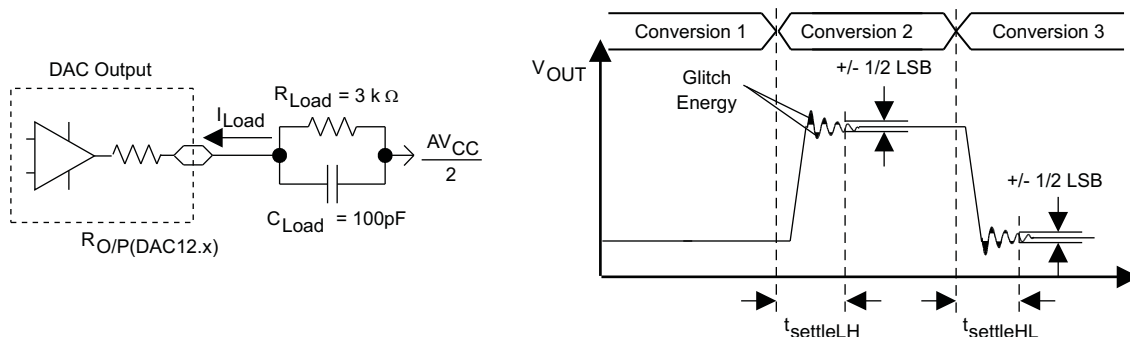
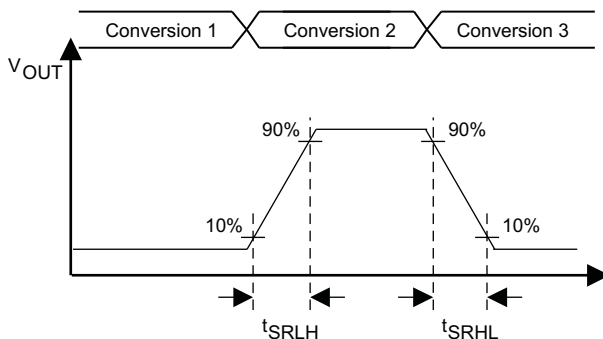

Figure 5-24. Settling Time and Glitch Energy Testing
Figure 5-25. Slew Rate Testing
$V_{ref} = V_{CC}$ , DAC12IR = 1, over recommended ranges of supply voltage and operating free-air temperature (unless otherwise noted) (see Figure 5-24 and Figure 5-25)
| $t_{ON}$                  | DAC12 on time               | DAC12_xDAT = 800h, Error $_{V(O)}$ < $\pm 0.5$ LSB (1) (see Figure 5-24) | DAC12AMPx = 0 → {2, 3, 4} | 2.2 V, 3 V | 60   | 120     | $\mu$ s    |      |
- (1)  $R_{Load}$  and  $C_{Load}$  connected to  $AV_{SS}$  (not  $AV_{CC}/2$ ) in Figure 5-24.
- (2) Slew rate applies to output voltage steps  $\geq 200$  mV.